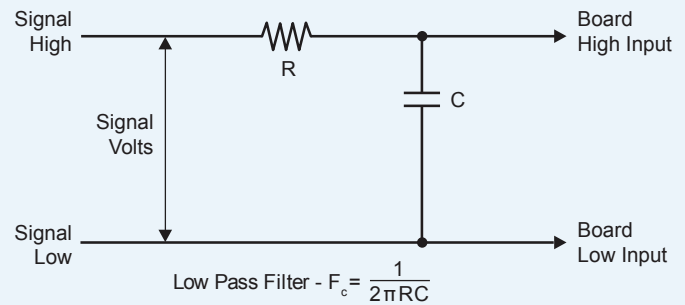

Figure 17. Low-pass filter schematic
In a digital circuit, a low pass filter might be used to *debounce* (filter) an input from a switch or external relay. Unless switch/relay contacts are mercury-whetted, they tend to bounce briefly on closure, generating a pulsating noise signal. A simple low-pass filter can be constructed from one resistor (R) and one capacitor (C) (refer to Figure 17).